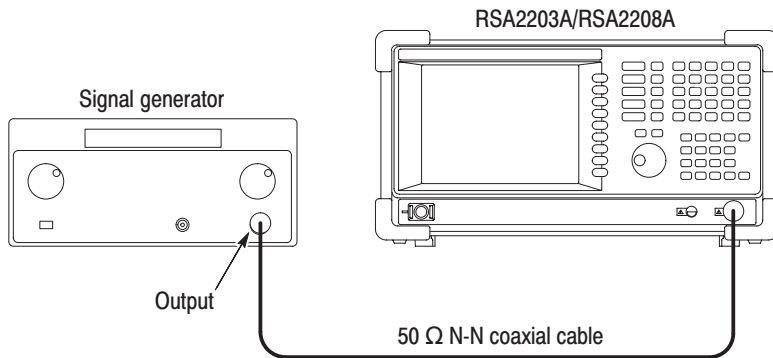

Figure 4-12: Initial test hookup
b. *Hook up the generator:* Connect the generator output through a 50 Ω N-N coaxial cable to the analyzer **INPUT**. See Figure 4-12.